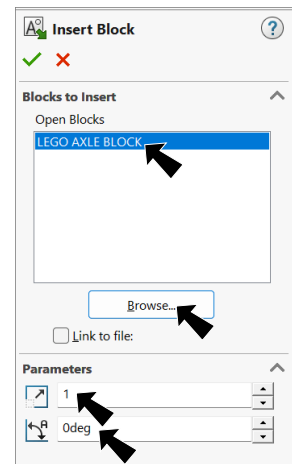

Fig. 49
Step 4. In Insert Block Property Manager, click **Browse**, Fig. 49